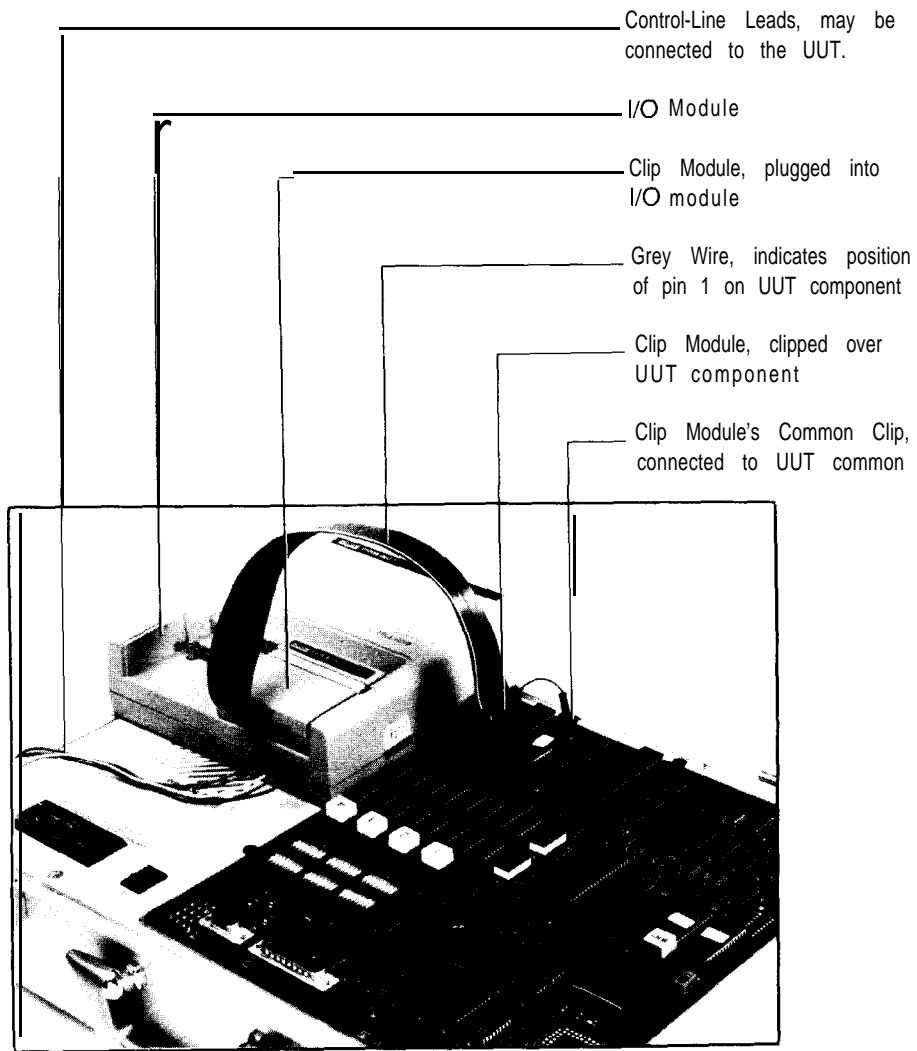

Figure 6-2: Using Clip Modules
4. The clip at the end of the cable fits over U3, as shown in Figure 6-2. Use the grey wire on the cable to locate pin 1 on the clip; line it up with pin 1 on the DIP IC.